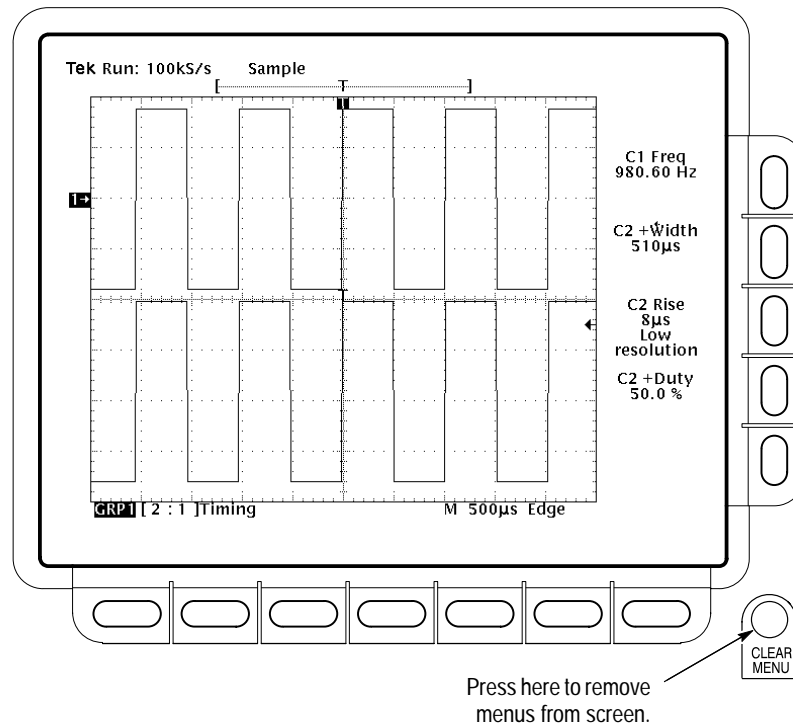

Figure 1-18: Four Simultaneous Measurement Readouts
11. To move the measurement readouts outside the graticule area, press **CLEAR MENU**. (See Figure 1-18.)